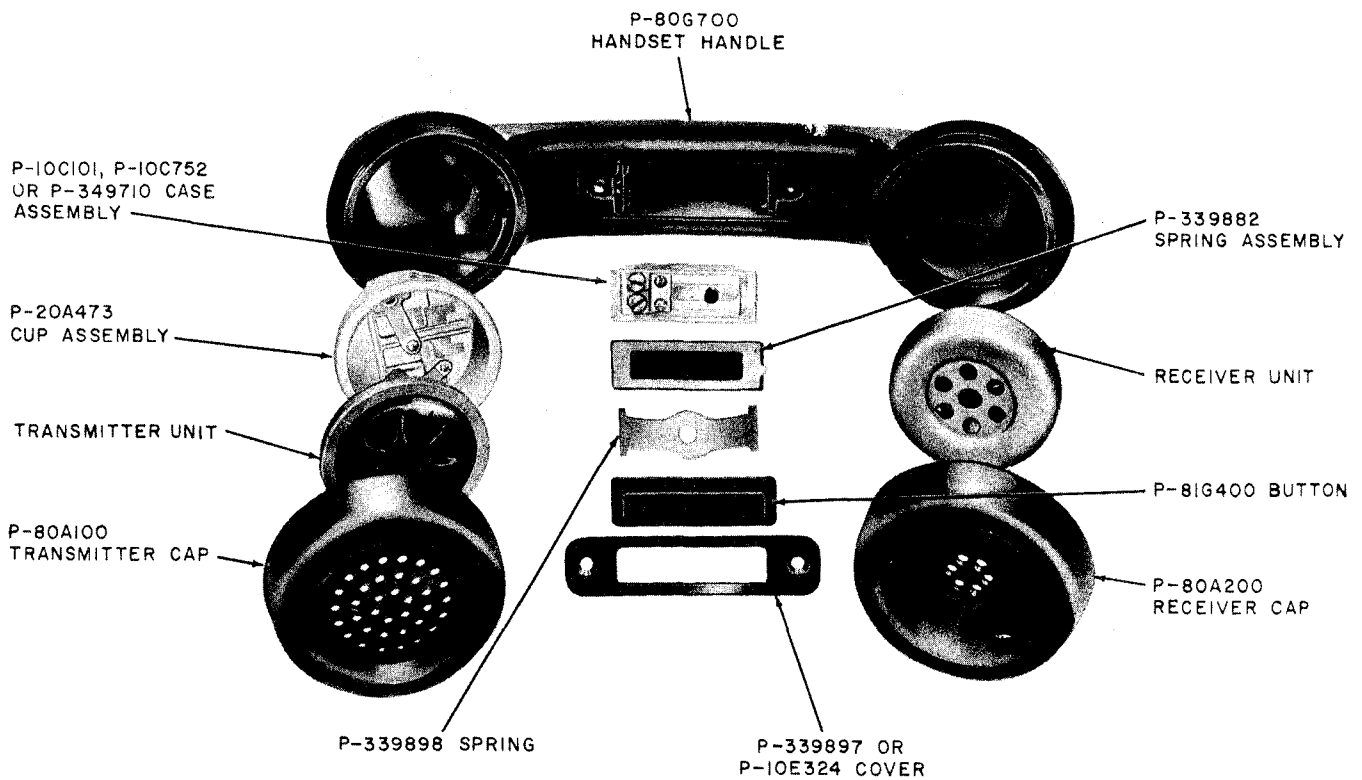

Fig. 6—G5-Type Handset Assembly
2.26 The G5-type handsets (Fig. 6) are equipped with a pushbar switch located in the handle. The pushbar switch is wired for push-to-talk, push-to-listen, or to control an external function.